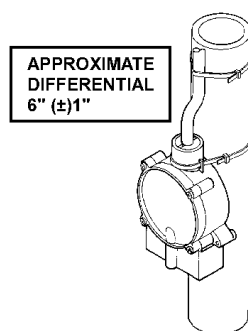

Figure 3.
3. For Universal installation, refer to Figure 3. The RS-5 can be attached to a pipe with the cable ties provided. Slots are provided at the upper collar of the switch housing to enable you to secure the switch to piping. Use one cable tie to attach the switch to the piping through the slots on the collar. The other cable tie should be used to secure the power cord to the piping approximately 3" above the switch collar as shown in Figure 3.